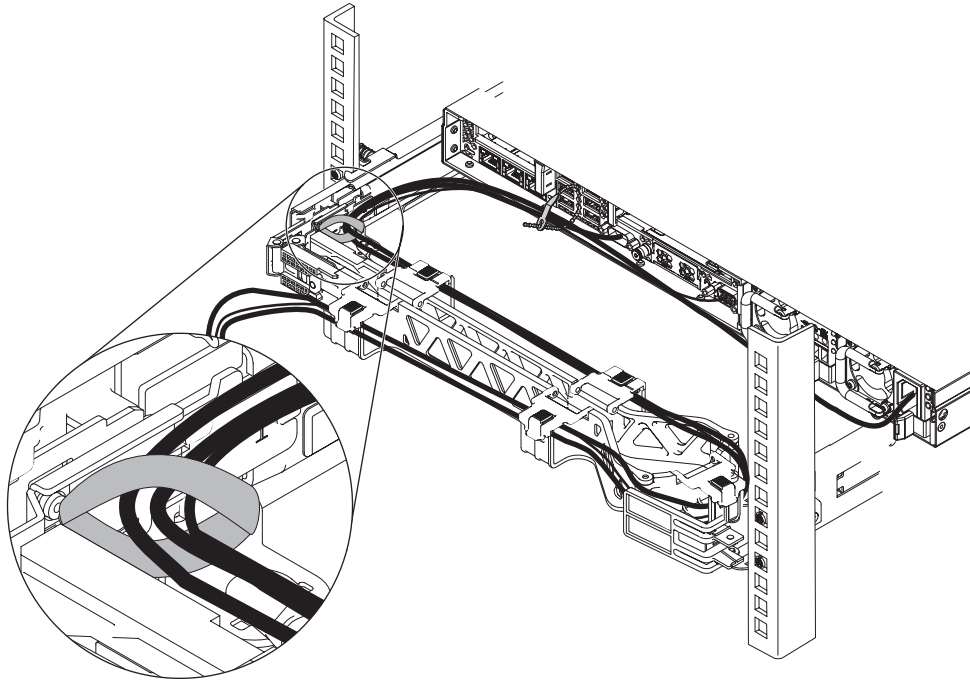

Figure 39. Securing the cables with hook-and-loop fastener strap
9. Secure the cables with the hook-and-loop fastener strap, as shown in Figure 39 on page 48.